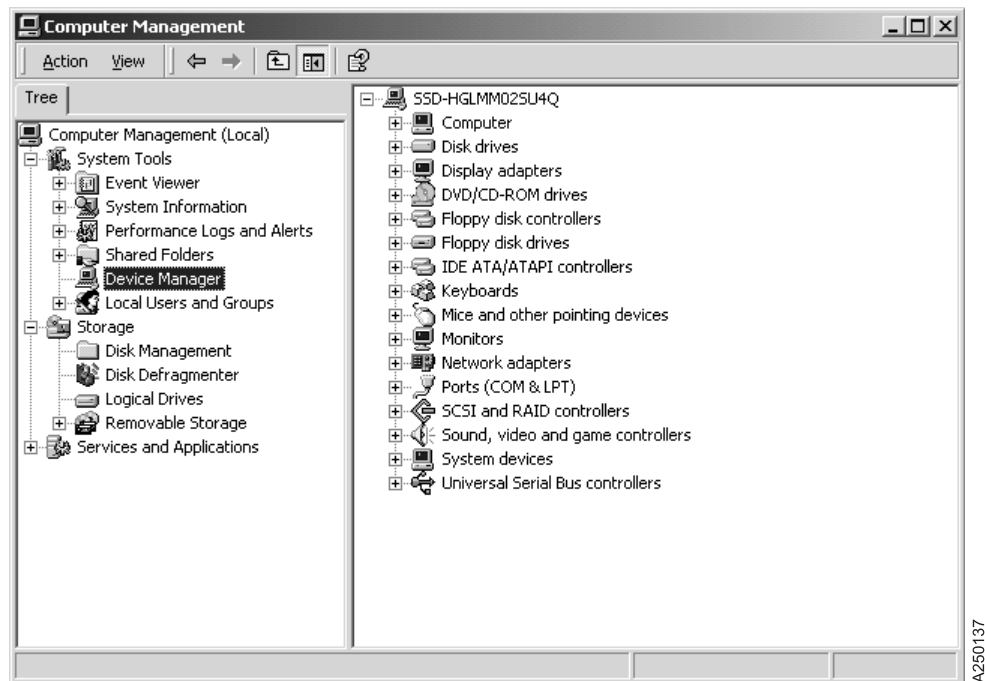

Figure 26. Device Manager Menu
6. A **Computer Management** window opens. Click **Device Manager** under the **System Tools** tree. See Figure 26.